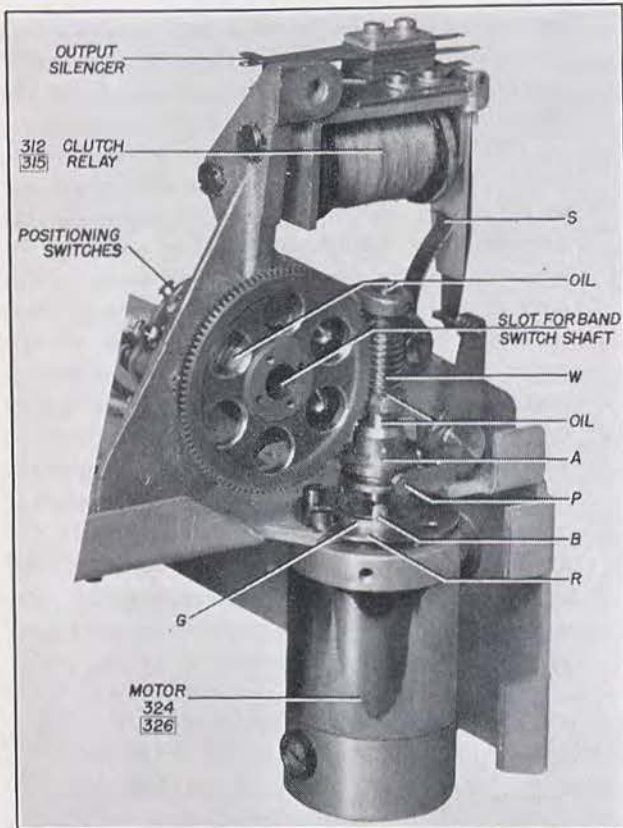

FIGURE 44—RADIO RECEIVER BC-225-A OR BC-352-A, BAND CHANGE MECHANISM
- a—Make certain that all points indicated in Figure 44 are lubricated, applying light oil sparingly.
c—In replacing the switch drive motor, 324 or 326, it is necessary to centralize the two engaging portions of the clutch and at the same time, to centralize the ring, part R Figure 44, with the governor shoes to reduce to a minimum the frictional load on the motor. After having positioned the motor properly and secured it to the chassis, make certain that the worm and worm wheel parts W do not bind when the switch is rotated between Band 1 and Crystal 3. If there is any binding, loosen the three screws that secure the worm bracket and disengage the worm slightly, being sure to maintain the clutch alignment. Tighten the three screws and check for binding.